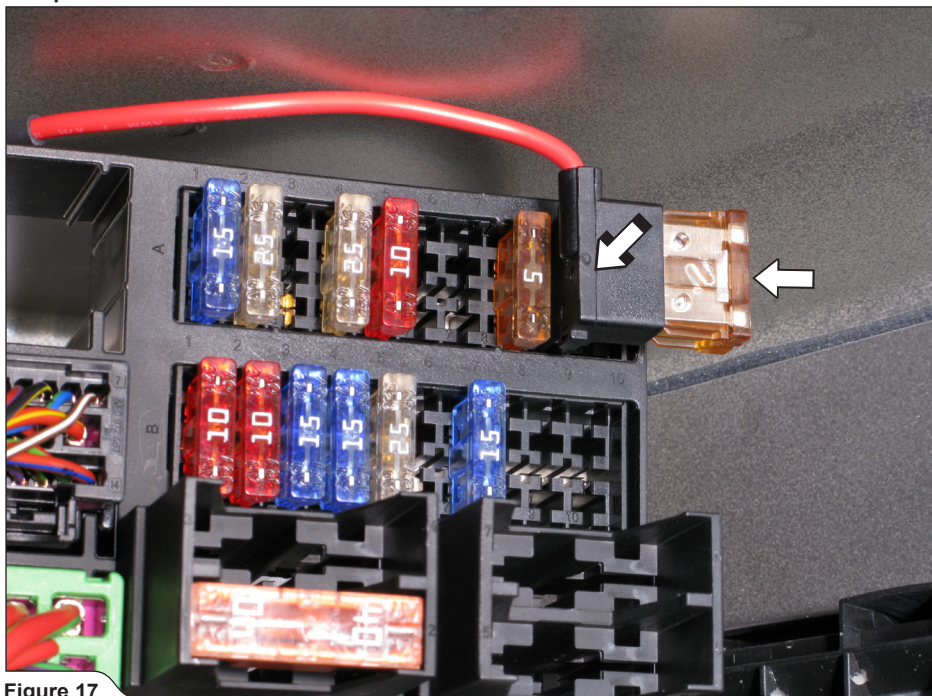

Figure 17
13. Insert the stock 5A fuse into the transmitter's free fuse connector and connect the fuse connector into the A9 fuse spot, as shown (Figure 17).